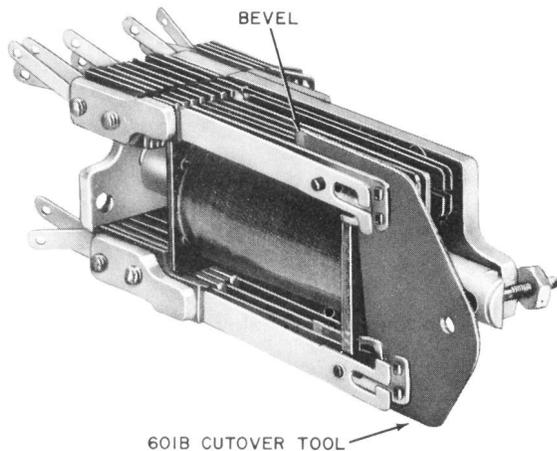

Fig. 38—Blocking U676 and U680 Relays for Cutover Purposes
4.04 U676 and U680 Relays: Fig. 38—Using the 601B cutover tool, block open the contacts controlling the circuit through the line relay. With the beveled side of the legs of the tool facing away from the armature, insert the tool as far as it will go between the stud controlling the operation of the spring to be blocked open and the adjacent contact or buffer spring. On U676 relays, insert the tool between contact springs 2 and 3 (top) and contact spring 2 and buffer spring (bottom). On U680 relays, insert the tool between contact springs 2 and 3 (top) and contact spring 4 and buffer spring (bottom).